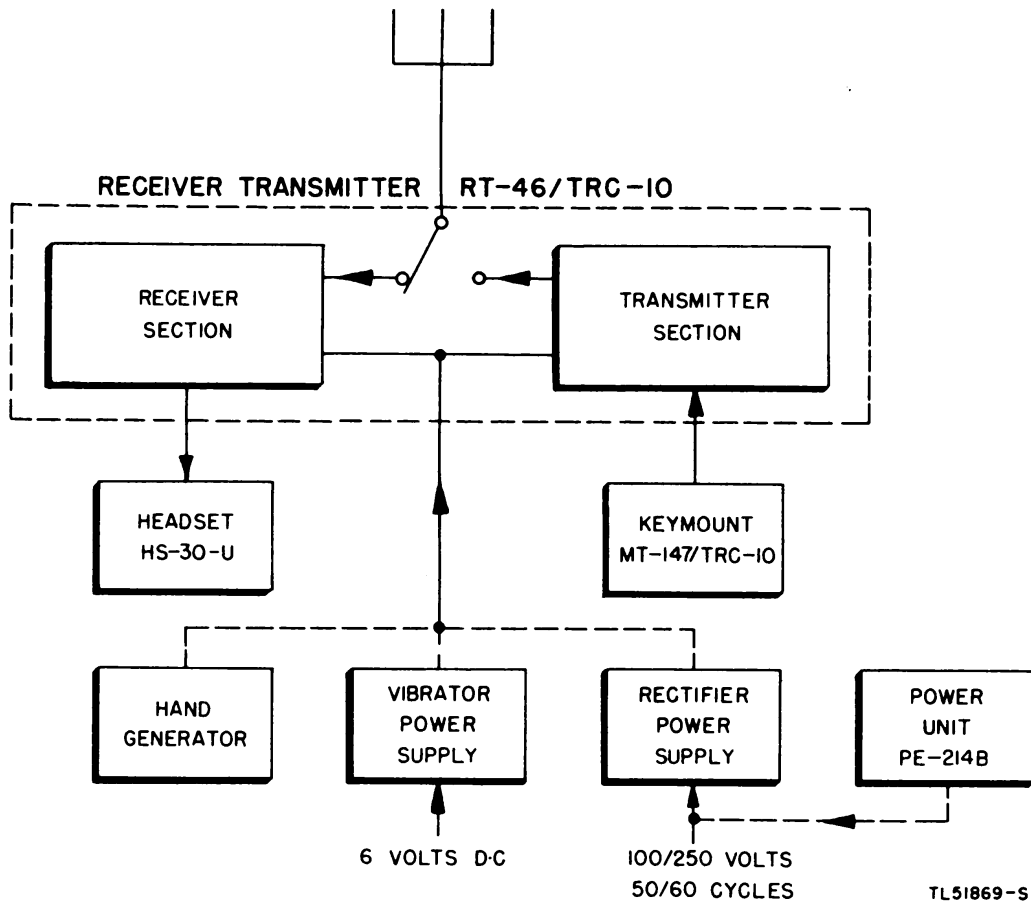

Figure 2. Radio Set AN/TRC-10, simplified block diagram.
a. A simplified block diagram of the radio set is given in figure 2 and shows the inter-relation of the various components. Any one of three power supply units may be used with the receiver-transmitter; the unit used will depend on the primary power source that is available.